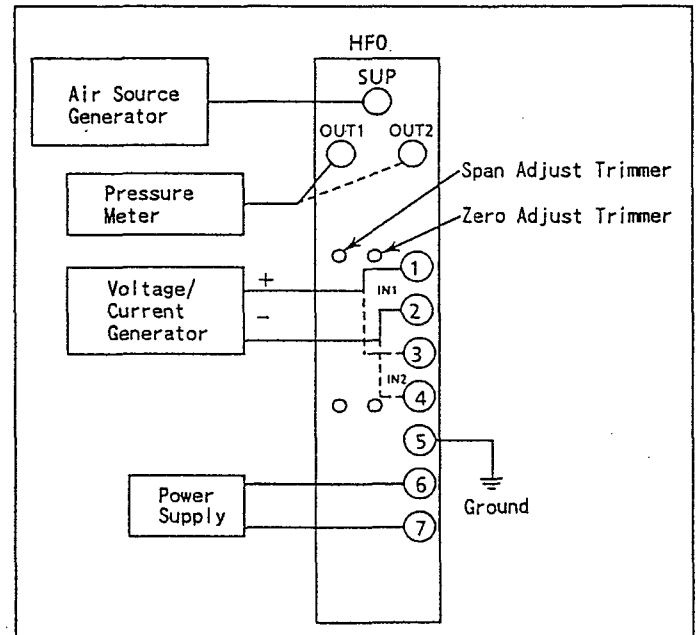

Fig.6 Wiring-Piping of Calibration Equipment
- ① Connect each equipment as shown in Fig.6.
- ② Input/output characteristics check